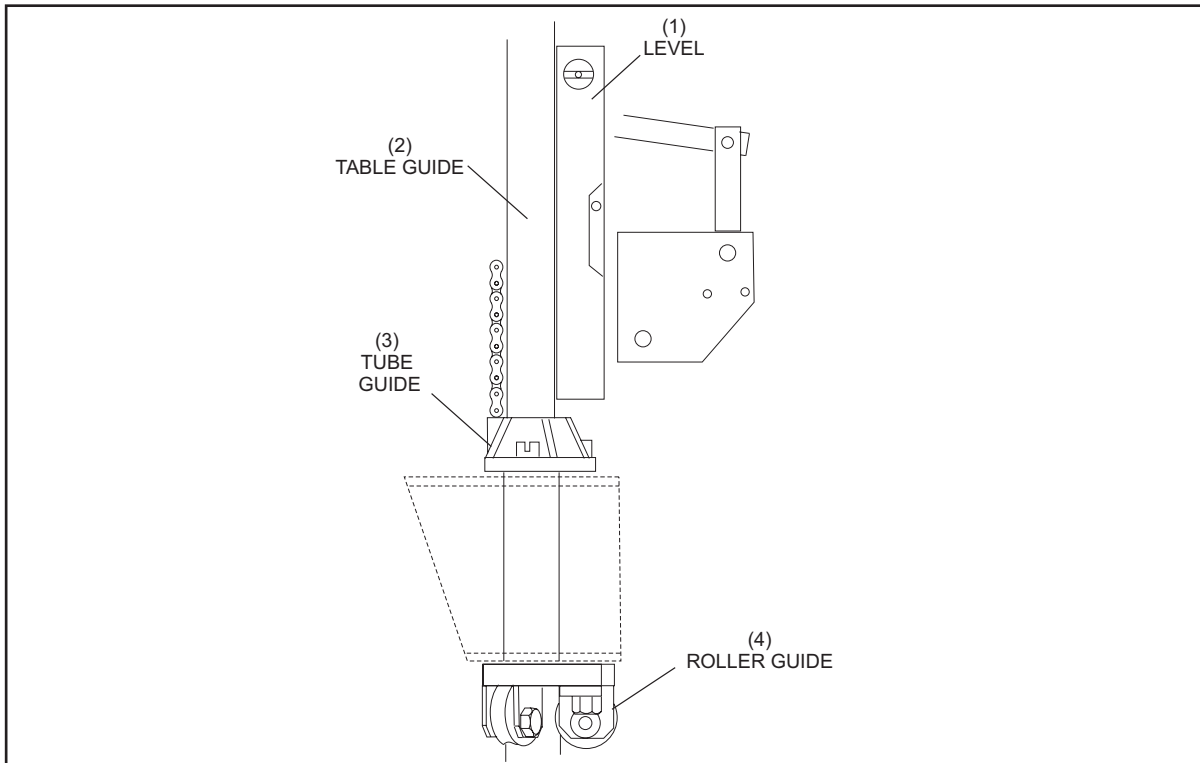
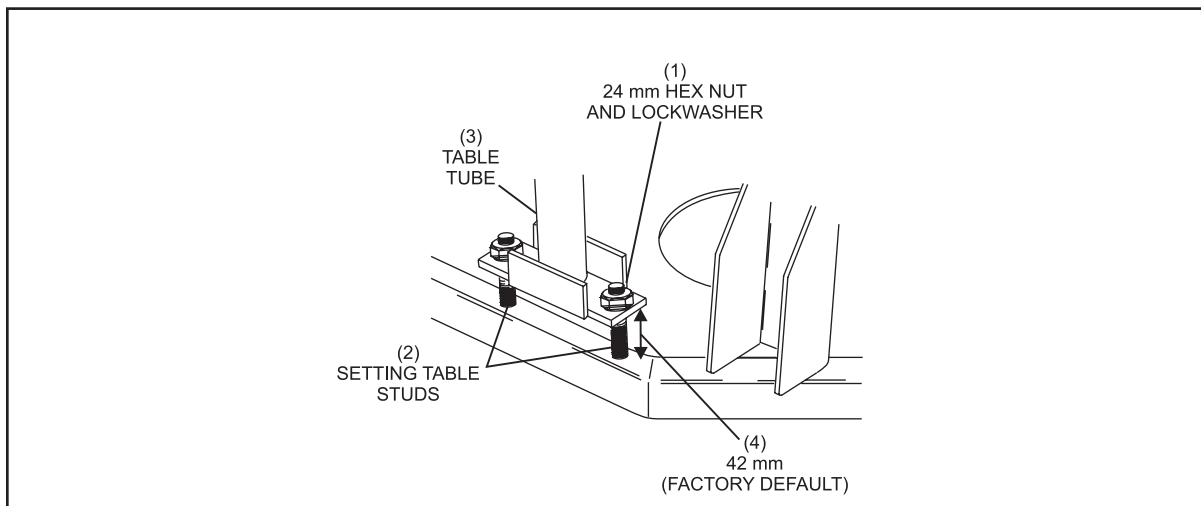

Figure 5-26. Table Rack Guide Rollers.
Figure 5-27. Setting Table Studs.
1. With the table at home position check the front, back and side to side position of the table tube using a level. Refer to *Figure 5-26*. If adjustment is needed, loosen the 24 mm hex nuts on the setting table studs. Refer to *Figure 5-27*. Adjust the roller guides and bearing block as needed to obtain a level tube guide.
5. To adjust, lower or raise the large hex nuts (24 mm) socket and drive required) on the setting table’s studs until the table is level. Refer to *Figure 5-27*.